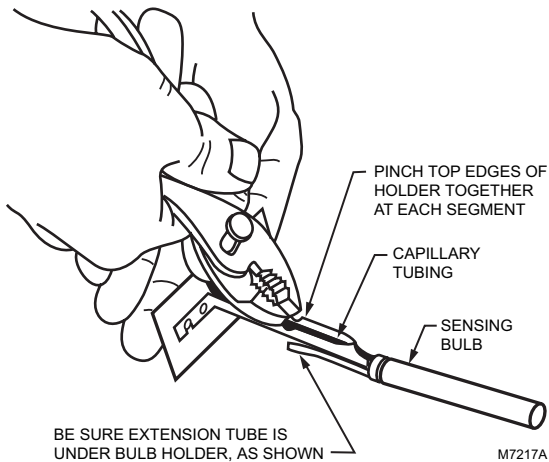

Fig. 14. Securing capillary in bulb holder.
4. Place the capillary in the bulb holder channel. Pinch the top edges of the holder together at each segment. (See Fig. 14).